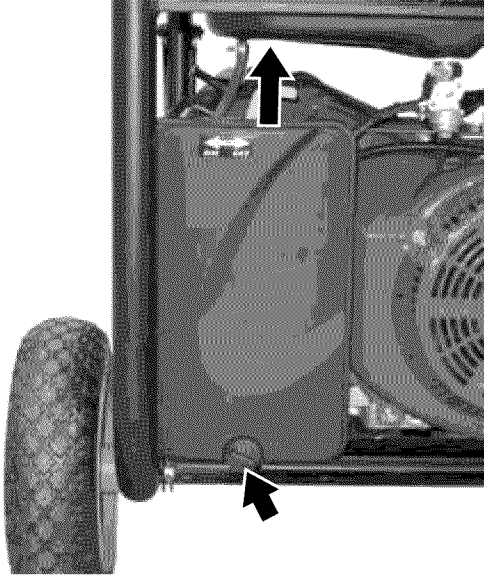

Figure 35 – Removing Air Cleaner Cover
3. Turn the release knob at the bottom of the air cleaner assembly (see Figure 35) counterclockwise until the air cleaner cover can freely move outward.
4. Slowly lift up and disengage the top tabs of the air cleaner cover (see Figure 35). Clean the air cleaner cover with a clean rag and place on a clean surface.